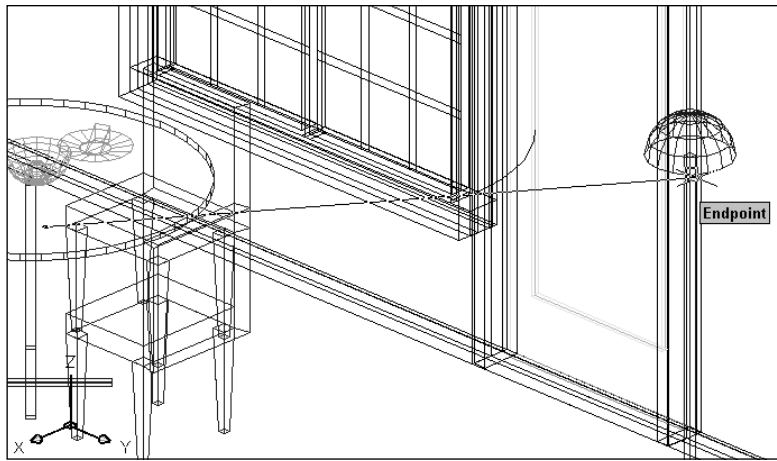

Figure 25-12: Picking the point light location.
4. Type **P1** in the Light Name text box. Click Modify. AutoCAD returns you to your drawing. Click Pan Realtime and pan to the right a couple of times until you see the floor lamp, as shown in Figure 25-12. Press Esc to exit Pan mode. At the Enter light location <current>: prompt, pick the endpoint shown in Figure 25-12. AutoCAD returns you to the New Point Light dialog box.